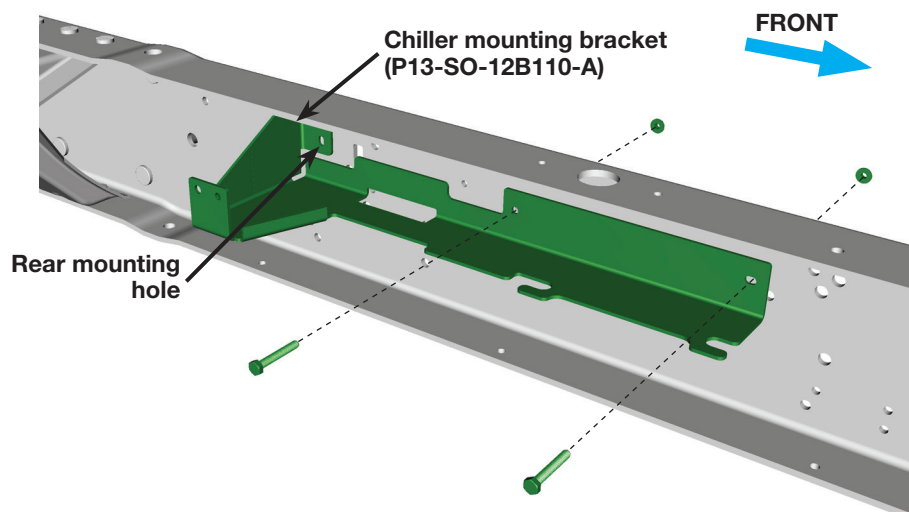

Figure 8 – Marking Chiller Mounting Bracket Rear Hole
1. Referencing Figure 8, mount the NPT ends of both fuel chiller adapter fittings, P13-SO-12A150-A, to the radial ports of the chiller, P13-SO-00540-02, and tighten to 34 N•m. Visually check that there are medium-sized O-rings seated in the four fitting ends of the adapter fitting on the radial fuel chiller ports.